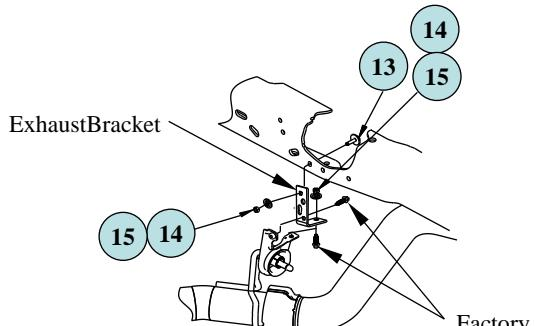

Figure 5a
16. If there is less than $\frac{1}{2}$ " clearance between the exhaust pipe and the Hide-A-Goose cross members, the exhaust bracket supplied with the 4449 mounting kit must be used. See figure 5a and 5b for 2008 models and up. For the rear attachment (Figure 5a), fasten the supplied bracket extension to the factory bracket with the factory M8 bolts, then fasten the extension to the frame with the supplied hardware. Reattach the exhaust bracket forward of the axle to the frame cross member with $\frac{3}{8}$ " spacers sandwiched between the bracket and cross member.